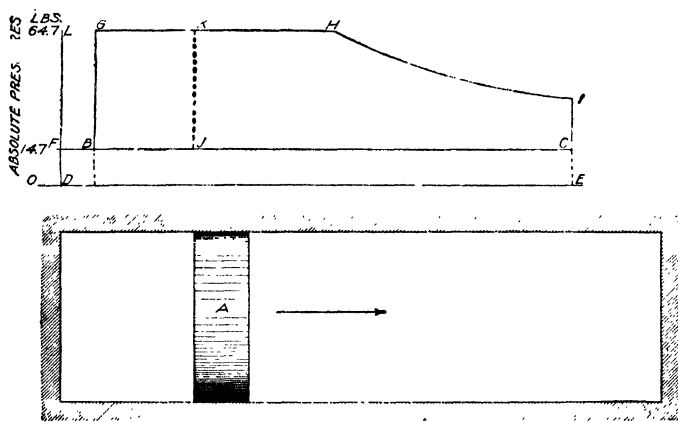
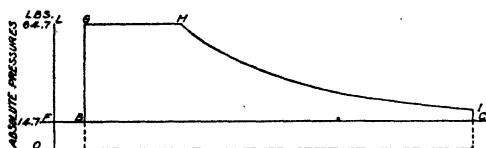
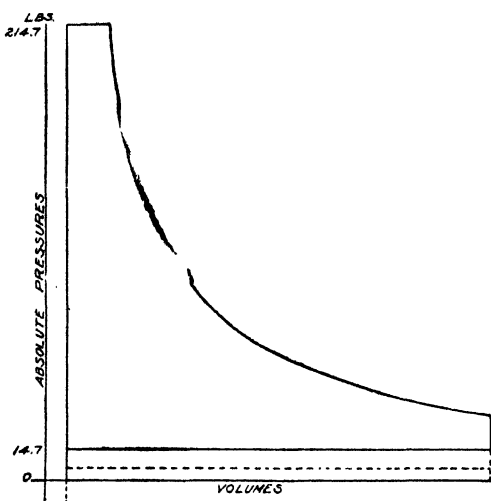

Fig. 13. Theoretical Indicator Diagram for One-Half Cut-Off
Fig. 14. Theoretical Indicator Diagram for One-Quarter Cut-Off
Fig. 16. Theoretical Indicator Card for One-Tenth Cut-Off
the expansion force of the steam. For this reason, all practical steam engines are made to admit steam only for the first portion of the stroke, that is, about one-half stroke or less, the remainder of the stroke being devoted to expansion. In Fig. 13, suppose  $A$  represents the position of a piston moving from left to right. The horizontal distance  $BC$  represents the stroke, and vertical distances represent steam pressures.  $DE$  is the line of zero pressure, and  $FC$  that of atmospheric pressure. Suppose steam is admitted at 50 pounds gage pressure during the first half of the stroke, from  $G$  to  $H$ ; the steam port then closes and the steam expands with diminishing pressure along the curve  $H I$ . Since work is the product of force into distance traveled, it follows that for each fraction, such as  $BJ$  of the piston travel, the included area  $B G K J$  will represent the work done during that portion of the stroke, and the area of the entire card  $B G H I C$  will represent the work done during the whole stroke.
**Indicator Diagrams.** A diagram such as Fig. 13 is called the "indicator diagram" or "indicator card", and is employed to study
the internal action of the engine. The expansion curve of steam follows Boyle's Law with sufficient closeness for practical purposes. Fig. 14 is similar to Fig. 13
In the foregoing, no mention has been made of the contents of the steam passages between the slide valve and the cylinder, or of the clearance volume between the piston and the cylinder head when the crank is on dead center. These clearance spaces cannot wholly be avoided, but it is desirable to reduce them as much as possible. It is customary in indicator cards to represent the clearance space by an area to the left of the actual indicator card. This area is  $F L G B$  in Fig. 13 and Fig. 14. Its volume averages about 5 per cent of the volume swept by the piston. Owing to the necessity
of taking the steam in the clearance space into account, the actual steam consumption in Fig. 14 is a trifle more than half that in Fig. 13.
**Effect of High Pressure and Early Cut-Off.** As Fig. 14 shows, no great advantage is gained when working with steam at 50 pounds
by cutting off earlier than one-third stroke. If higher pressure is used, however, the cut-off can be considerably shortened. Fig 16 is a theoretical indicator diagram for 200 pounds gage pressure (214.7 absolute). The clearance is 5 per cent of the piston displacement, and cut-off occurs at one-tenth stroke. The weight of steam per stroke is about the same as in Fig. 14, but the work done by the